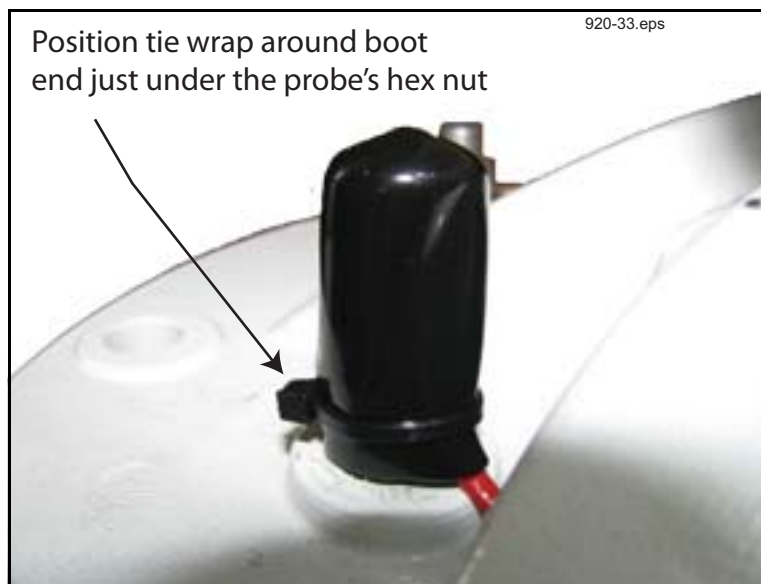

Figure 30. Positioning The Tie Wrap Over The Temperature Probe's Protective Cap
6. Slide the cap over the bend of the cable and push it down over the hex nut until it rests against the meter. Get the tie wrap (P/N 576008-161) from the temperature probe kit and position it around the end of the cap just under the temperature probe's hex nut and tighten it (see Figure 30).